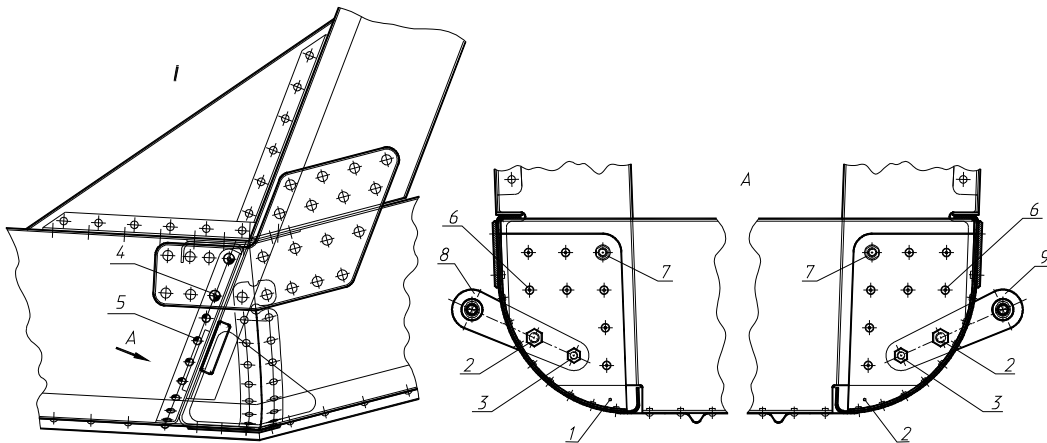

Fig. 3
*The work is carried out according to fig. 3.*
- 1) Remove the bolts (item 2, 3, 7) drill out the rivets (item 4, 5, 6);
- 2) Remove the diaphragms (item 1, 2), install the new reinforced diaphragms using temporary screws;
- 3) Fasten the diaphragms with Ø4 stainless steel flush pop-rivets (item 4); Ø3 aluminium pop-rivets (item 5); Ø4 aluminium pop-rivets (item 6);
- 4) drill close-tolerance Ø6 holes for bolts (items 3, 7) and close-tolerance Ø8 holes D8 for bolts (items 2) ;
- 5) install bolts (items 2, 3, 7) with primer;
■ **CAUTION:** Do not forget to install the strut attachment fittings (item 8, 9).